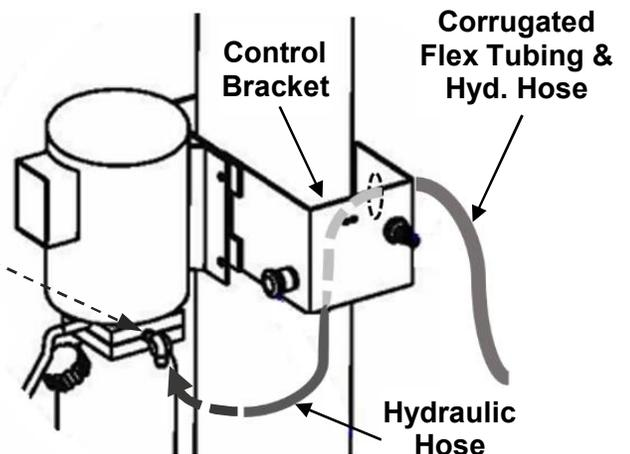

Fig. 26
- 5) Remove Jam Nut from end of Corrugated Flex Tubing and route Hydraulic Hose through the large hole on backside of Control Bracket. Insert the Flex Tubing end through hole on backside of Control Bracket and secure to it with Jam Nut, Fig 26.
- 6) Route Hydraulic Hose extending from Flex Tubing under the Control Bracket & up to the angled back 90 degree Power Unit Fitting to connect, Fig 26. Ensure not to overtighten JIC Fitting connections.